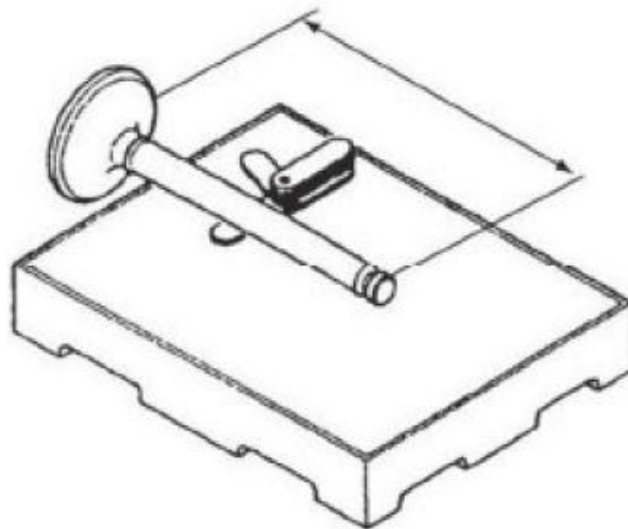

Figure 55. Valve Inspection Block
4. Place the valve stem on a flat inspection block or layout bed. Roll the valve until a gap can be observed between a portion of the valve stem and the surface of the block or bed. Use a feeler gauge to measure the gap (Figure 55). See Intake / Exhaust Valve and Guide chart for the service limit.